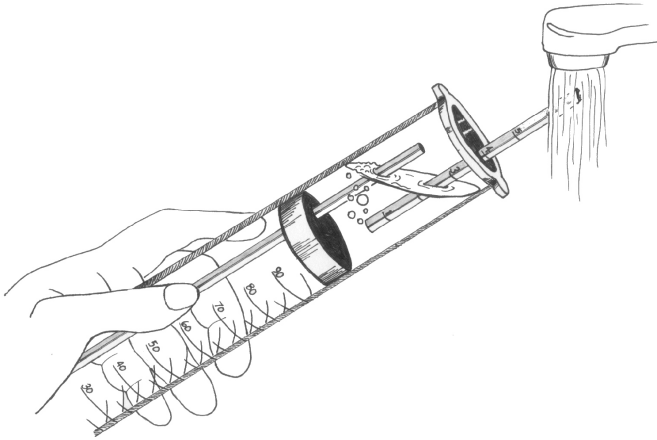

Figure 2: Filling Bubble Chamber
1. Fill the bubble chamber three quarters full by running water down the suction control tube or removing the upper stopper.(Figure 2)